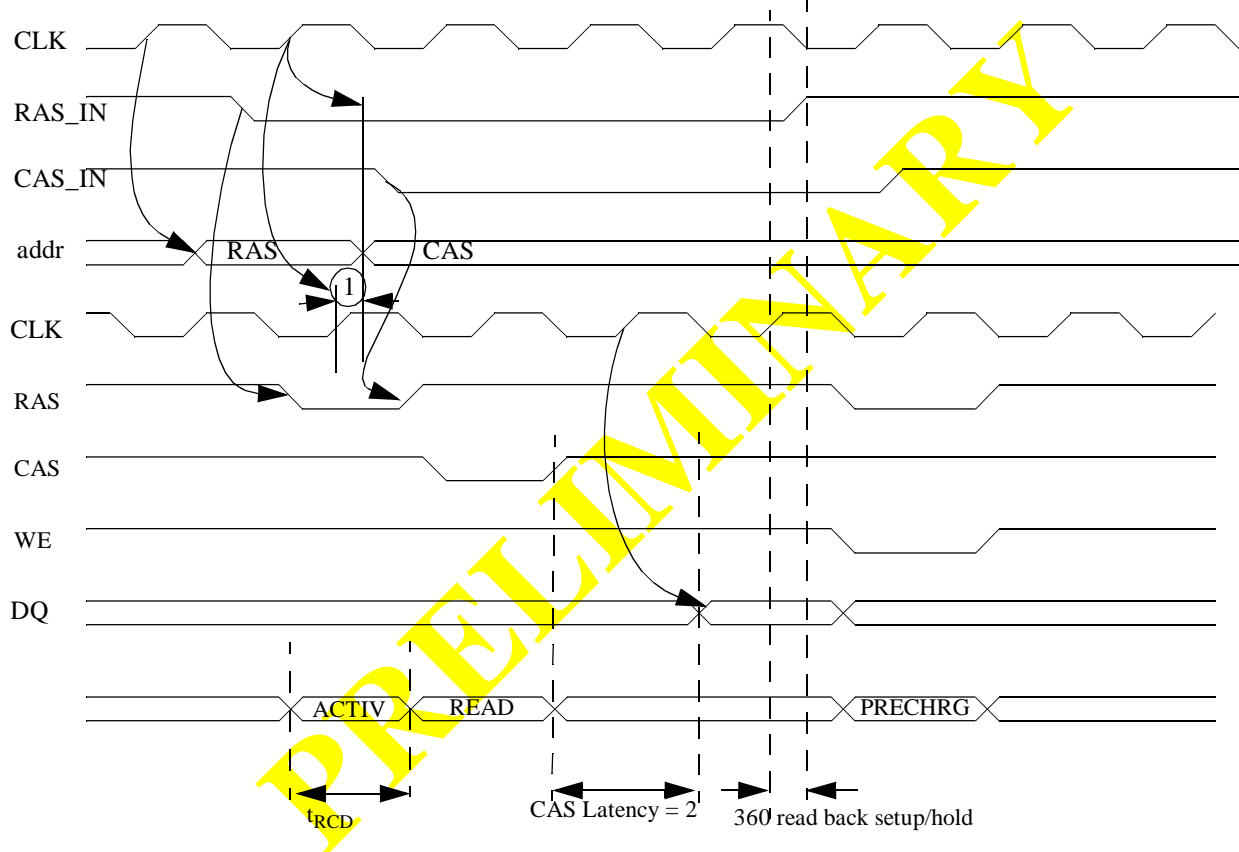

Figure 2. Single Read Access
The next critical timing is the race between positive edge of the delayed CLKOUT and the RAS address. The address hold delay must be larger than the CLK->CLKOUT propagation delay (see (1) in Figure 2). The 5V-3.3V address level shifter helps to delay the address in this case. The CLK->CLKOUT delay must be in the range of all other output delays RAS, CAS, WE, DQMB, etc).